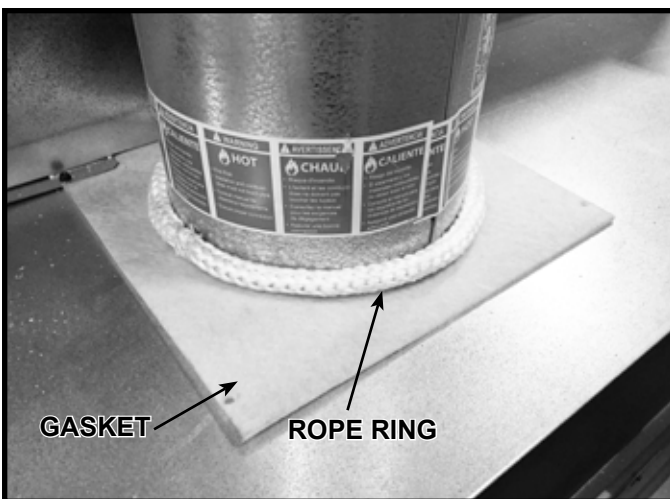

Figure 6.4 Fiberglass Rope Ring Installed
5. Place the fiberglass rope ring over the gasket. Ensure both the gasket and the rope ring are seated on the top of the appliance. See Figure 6.4.